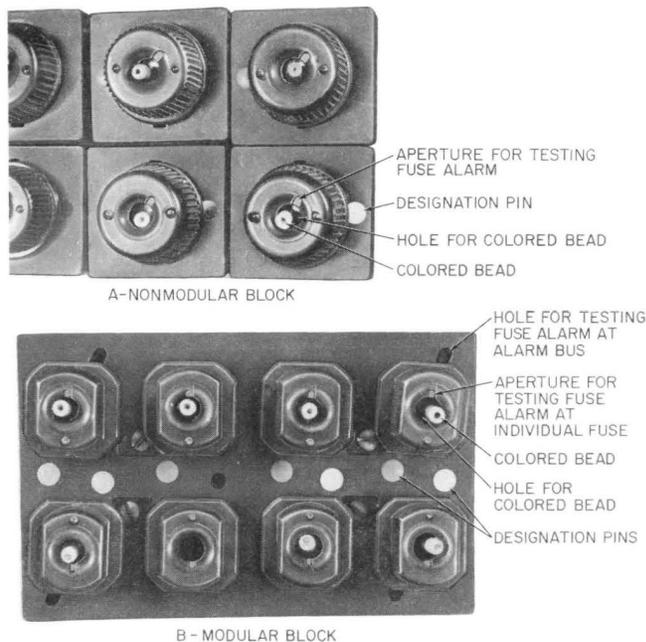

Fig. 12—Typical 70-Type Fuse Cap
(3) At the RB1 fuse, touch the tip of the 411C test pick to the exposed test point on the fuse cap (Fig. 12).